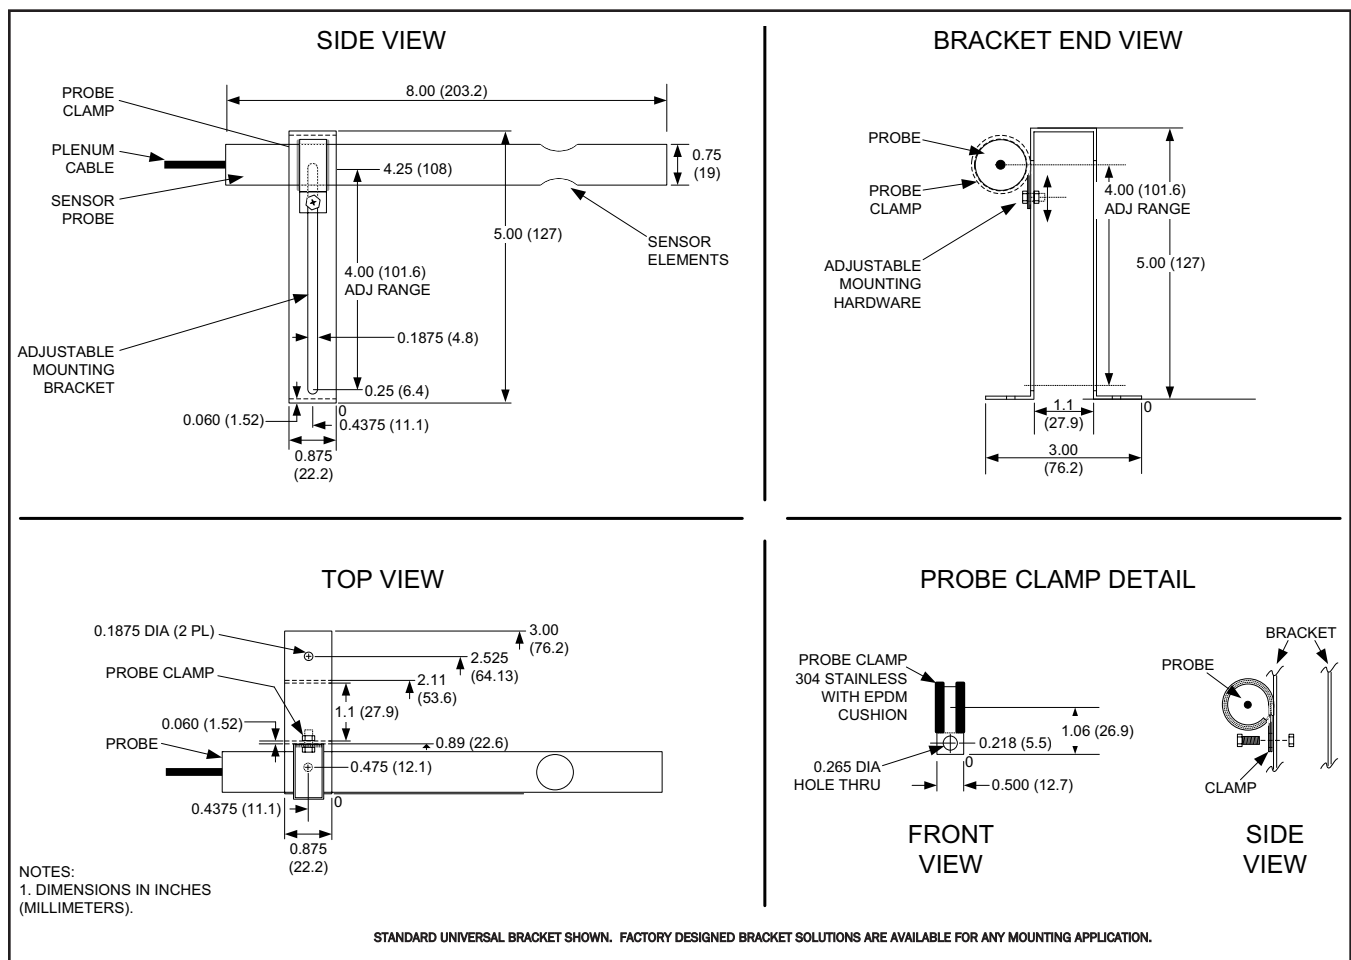

Figure 3. Sensor Probe Mechanical Detail
1. ☐ Sensor probes must be installed at the factory-specified location using the integral universal bracket attached as shown in Figure 3. The universal bracket consists of a rubber probe clamp that is attached to the bracket using the included hardware. Probes can be rotated within the clamp, and the clamp can be rotated and mounted at any point along the 4-inch slot on the mounting bracket, thus providing complete mounting flexibility and adjustment. Assemble probe to the clamp and bracket so that when mounted, air flow is through the probe sensor opening, and in the same direction printed on the probe label.